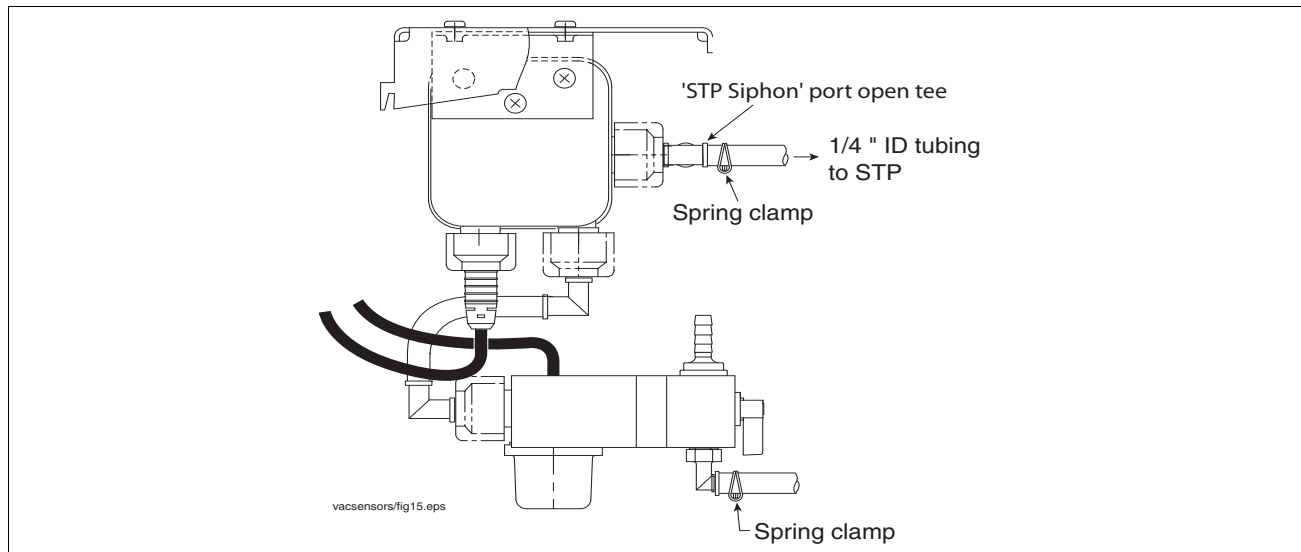

Figure 13. Connecting vacuum tubing from pump siphon port to Vac Sensor
2. Measure a length of 1/4" ID tubing to connect 1/4" ID barbed tubing fitting in the siphon cartridge port and the vacuum input open tee of the Vac Sensor (see Figure 13). Plan enough tubing to avoid sharp bends in it or stretching it. Cut and install this tubing and secure tubing ends with spring clamps.